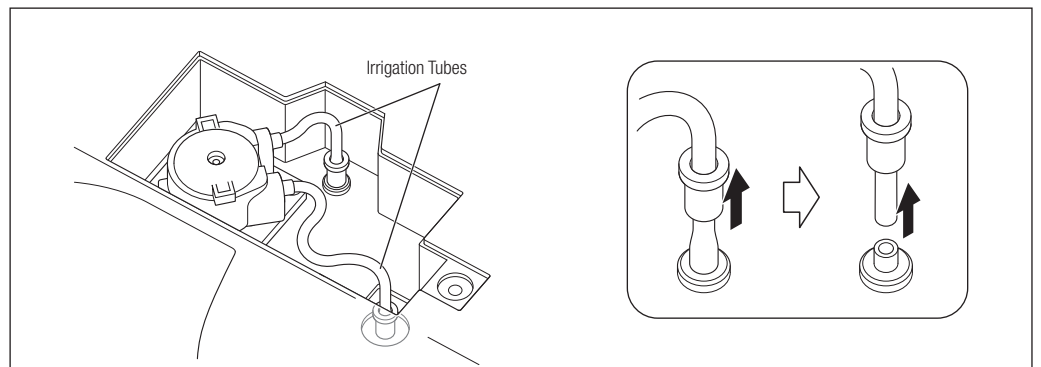

Fig. 50
- 3) Remove two Irrigation Tubes from the Control Unit (Fig. 50).
- 8) Mount the Irrigation Tube by following the removal procedure in reverse. Press the Connector Ring firmly into the Control Unit until it is fully pressed on (Fig. 50).